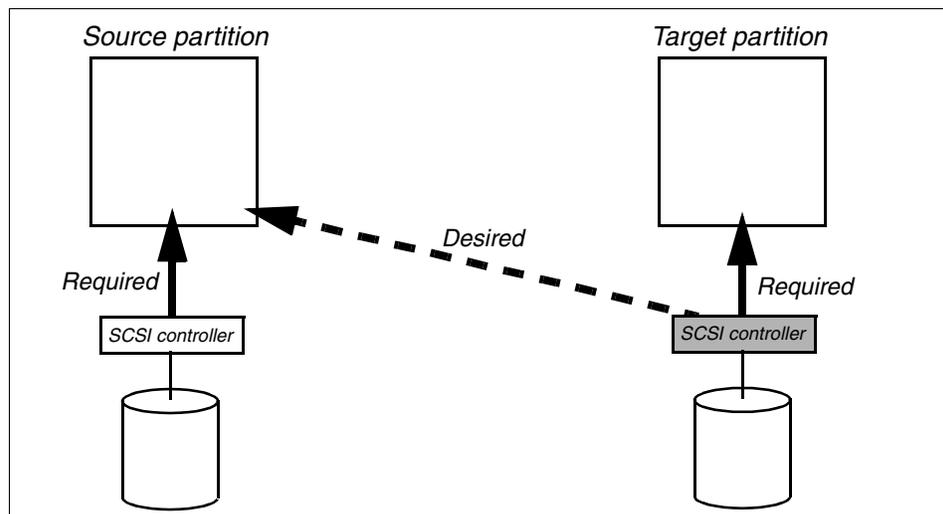

Figure 7-18 Installing AIX using alternate disk install
The SCSI controller, which is connected with hdisk0, is assigned to the source partition as Required, and the other SCSI controller, which is connected with hdisk1, is assigned as Desired, as shown in Figure 7-18.
- ▶ The target partition has not been activated (started). The SCSI controller, which is assigned to the source partition as Desired, is assigned to the target partition as Required, as shown in Figure 7-18.